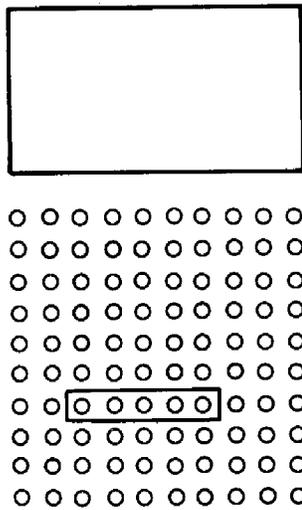
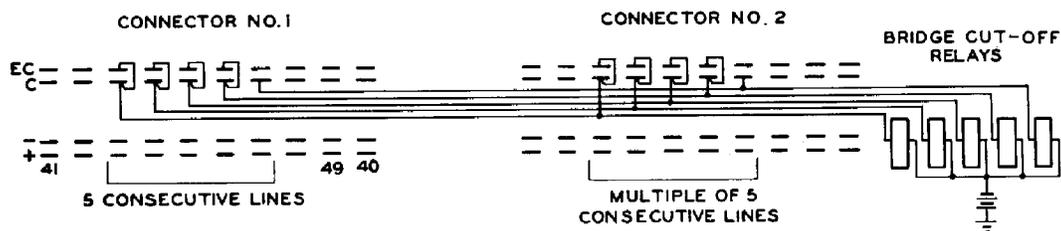
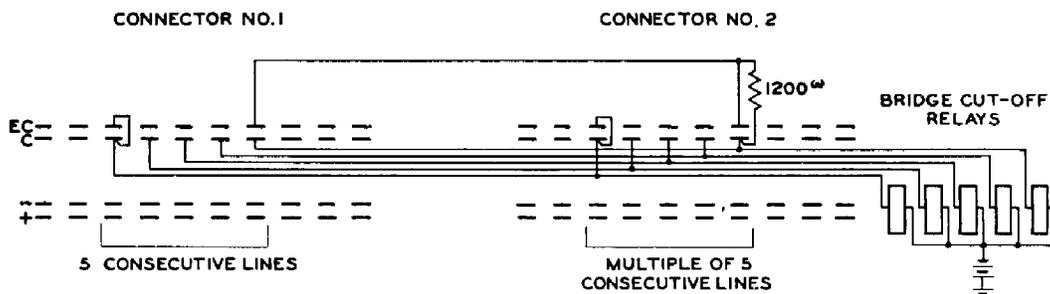
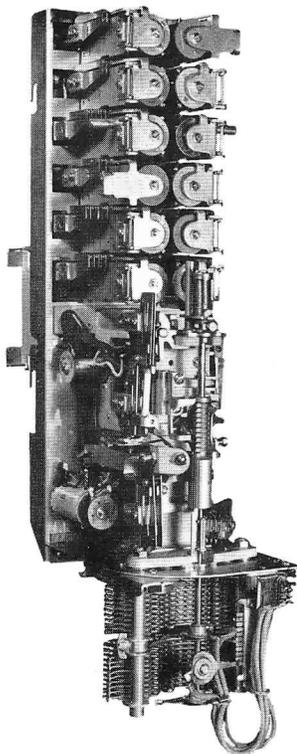

Figure 5. Five consecutive line numbers (43, 44, 45, 46, and 47) in the banks of a connector.
Figure 6. The most common pattern for 100-line connectors. Leads C and EC of all lines in the group, except the last, are strapped.
Figure 9. A pattern for 100-line connectors with night-line service and for level-hunting connectors.
Figure 14. Typical level-hunting connector.
Inset: How radio-type 1200 Ω 1-watt resistors (for figures 9, 14, 20, etc.), supported by their leads, mount on the bank terminal block.
Figure 4. Right-hand end of a shelf of trunk-hunting connectors for night-line service. The local connectors at the left have 11 relays each, as mentioned on page 8. The connectors at the center, with 13 relays each, are combination local-and-toll trunk-hunting connectors. At the right is the bank terminal block, at which all strapping (figure 9 in this case) is done.
3.2 Bank-marking patterns. A P.B.X. group bank-marking circuit pattern developed in 1918 was so well conceived that it continues in use today in many Strowger trunk-hunting connectors. A fourth lead, the "extra control" lead, abbreviated EC, is required for each line in the trunk-hunting connector banks. Control lead C and extra control lead EC are strapped on all lines in a P.B.X. trunk group, except the last line in the group. For the five lines in figure 5, this is shown schematically in figure 6. The task of strapping leads C and EC is actually simpler than the schematic of figure 6 suggests. Both leads are multiplied throughout all banks on a shelf, and strapping is done at the shelf bank terminal block (figure 4) only once for each line.
The trunk-hunting feature of these connectors usually requires two additional relays in each connector: if the regular connectors in the central office have eight relays, the trunk-hunting connectors will have ten relays. If an line (such as 43, first in the group in figure 5 is dialed and is idle, the connector seizes the line in the usual way, namely by grounding lead C to operate the cut-off relay of the called line. Because leads C and EC of line 43 are strapped, in grounding lead C the connector grounds also lead EC at every bank multiple appearance of line 43. If, now, another subscriber dials line 43, during dialing of the last digit 3, the second connector tests lead C of line 43 and finds it busy. Lead EC being grounded, relay-interrupted rotary stepping takes place. During this automatic rotary stepping, the connector, seeking an idle line, looks for absence of ground on lead C, and each grounded contact EC causes another rotary step to be taken. If all lines in the group are busy, the wipers step to the last line in the group. There lead EC is open so no further steps are taken, and ground on lead C causes busy tone to be returned to the calling party.
people he can be reached during the evening on 44. If meanwhile he calls out, busying 44, a call to 44 finds the line busy, the connector hunts past 44, and 45 will be rung. The station on line 45 probably is in another part of the building and goes unanswered, or is answered by the shipping clerk who must ask the caller (who may be at a paystation!) to hang up and call again later. Inasmuch as night calls are infrequent, little difficulty arises, and for years most operating telephone companies have found the system of figure 6 entirely satisfactory.
The limited suitability of figure 6 to night service led to the introduction in 1932 of the bank-marking circuit pattern of figure 9. This, too, uses a fourth bank contact for extra control lead EC, for each P.B.X. trunk line. The first line in a trunk group has leads C and EC strapped.* Subsequent lines in the group have lead EC open, except the last line in the group which has a 1,200Ω resistor permanently connected between leads C and EC.
The bank wiring of figure 9 usually requires three additional relays in the connector: if the regular connectors in the central office have eight relays, the trunk-hunting connectors will have eleven relays. If any line (such as 43, first in the group in figure 5) is dialed, and is idle, the connector seizes the line in the usual way, namely by grounding lead C to operate the cut-off relay of the called line. If now another subscriber dials line 43, during dialing of the last digit, 3, the second connector tests lead C of line 43, finds it busy, and then tests lead EC. Lead EC being grounded, relay-interrupted rotary stepping takes place. During this automatic rotary stepping, the connector operates on the battery-searching principle, looking for negative battery thru the unoperated cut-off relay of an idle line. If all lines in the group are busy, the wipers step to the last line in the group. There, ground (from lead C) thru high resistance ($1,200\Omega$) marks lead EC to prevent further steps, and the ground on lead C causes busy tone to be returned to the calling party.
Comparing figure 6 and figure 9, we notice that in figure 6 lines in the middle of a group are marked the same as the first line of a group,
and cause hunting, whereas in figure 9 lines in the middle of a group lack marking, just as do lines not in a group, and cannot cause hunting. Thus, if any line in the group except the first is dialed, the connector wipers have no opportunity to come to rest on the first line, and the connector does not set itself for hunting. If a caller dials directly any line (other than the first) in a group, he will either ring the line number he dialed, or will hear busy tone; the connector will not attempt to complete his call over another line in the group.
Figure 20 is the circuit of a typical trunk-hunting connector with a chart illustrating the sequence of operation of the relays when a call is made to the first or "pilot" number. The time chart illustrates automatic trunk hunting when the first 3 lines of a group are busy. Figure 9 shows the bank-marking arrangement and the wiring of a level containing a trunk-hunting group of this connector. When the pilot number is dialed and found busy, the connector will hunt until it connects to an idle line. When a number of the group other than the pilot number is dialed and found busy, the connector does not hunt but returns busy tone to the calling party. Thus any number other than the pilot number may serve as a night number.
A typical modern level-hunting connector is shown in figure 14. It can reach from one single line to a group of one hundred lines. A calling subscriber dials its wipers to the directory 'pilot' number (the first terminal) of a called P.B.X. subscriber. If that first line is busy and bank markings indicate the called subscriber has additional lines, the level-hunting connector hunts across them all until an idle circuit is found.
Level-hunting connectors are only slightly more expensive than the more conventional single-level trunk-hunting connectors. Ordinary single-level trunk-hunting connectors with night service using bank markings per figure 9 require, as previously stated, eleven relays; as seen in figure 14, ordinary level-hunting connectors require twelve relays -- only one relay more.
Figure 16. Trunk-hunting automatic rotary and vertical stepping-circuit elements of the level-hunting connector of figure 14. In the upper right-hand corner of this figure are shown levels 5 and 6 of the bank contacts of figure 15. The wipers are shown on bank contact 50, about to take an eleventh rotary step on level 5 and then to be advanced to bank contact 61.
In figure 16, the level-hunting connector of figure 14 has been dialed to 51, the pilot number of the 37-line group shown in figure 15. Vertical wiper VW is thus disengaged from vertical bank VB. Lines 51 thru 63 are busy. Ground on lead EC of line 51 has set the connector for relay-interrupted rotary stepping, battery searching, hunting negative battery through the cut-off relay of the first idle line, 64. Rotary-interrupter relay RI keeps operating, closing the circuit of rotary magnet RM. At each busy contact C reached, ground prevents battery-searching relay BS operating. Relay RI re-operates, etc., and thus we step across 51, 52, 53, 54, 55, 56, 57, 58, and 59 to 50.
Using as they do a bank-marking pattern similar to figure 9, level-hunting connectors give reliable (non-hunting) night service if any number subsequent to the regular daytime directory number is dialed.